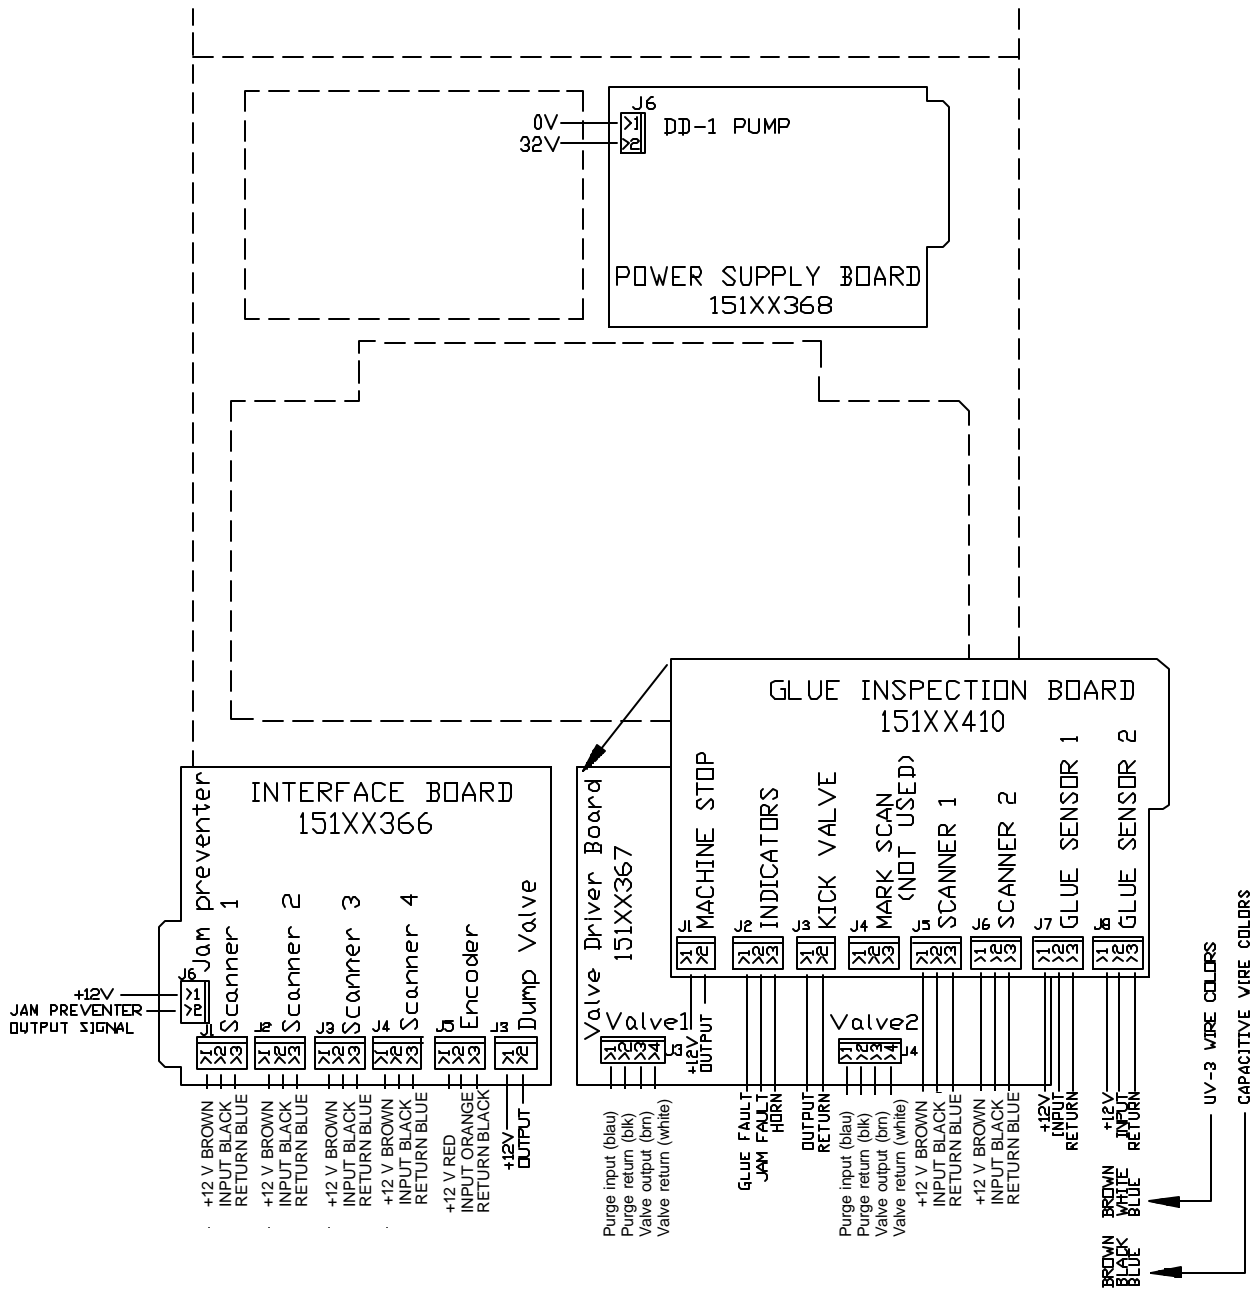

Figure 8. Internal Connections Diagram
Refer to Figure 8 for detailed layout of internal connections.
**Note!** Connections are as follows (see Figure 8 for wire colors):
**Note!** The "scanner-1" connector must be used for the scanner installed for channel 1. This scanner can also be used to control channel 2. If separate scanners are desired to control channel 1 and channel 2, the "scanner-1" connector must be used for the scanner installed for channel 1, and the "scanner-2" connector must be used for the scanner installed for channel 2. Connections are as follows (see Figure 8 for wire colors):
**Note!** The "valve-1" connector must be used for the glue valve controlled by channel 1. The "valve-2" connector must be used for the glue valve controlled by channel 2 (see the Internal Connections diagram). Connections are as follows (see Figure 8 for wire colors):